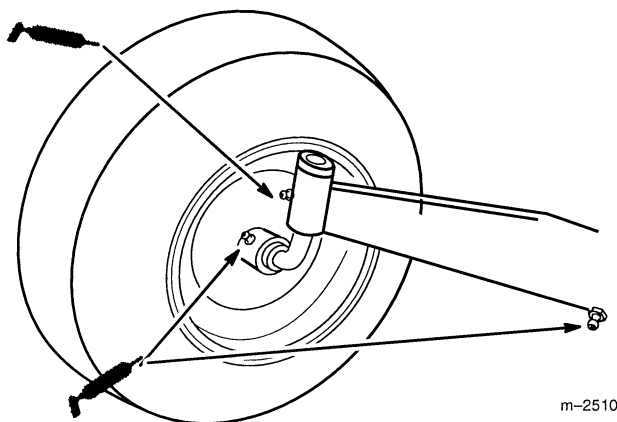

Figure 22
1. Lubricate the front wheels, spindles and tie-rod ends until grease begins to ooze out of the bearings (Fig. 22).
2. Lubricate the front axle pivot (Fig. 22).